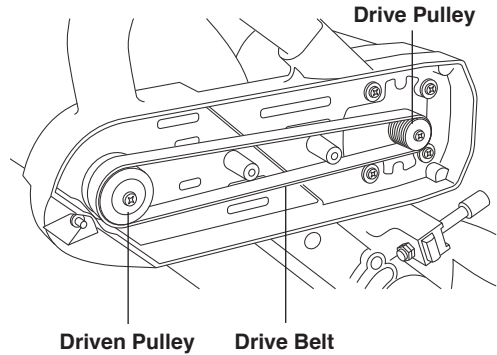

Figure 44. Belt Changes
3. Cut and remove the worn drive belt (Figure 44). Before installing the new drive belt, clean both pulleys thoroughly.